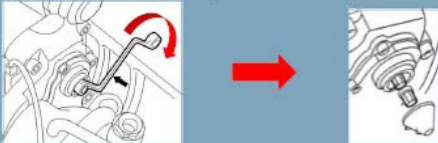

Figure 14 - Install the Brake Pads
1.15. Install brake pads, installing new brake pads is an option (see Figure 14).